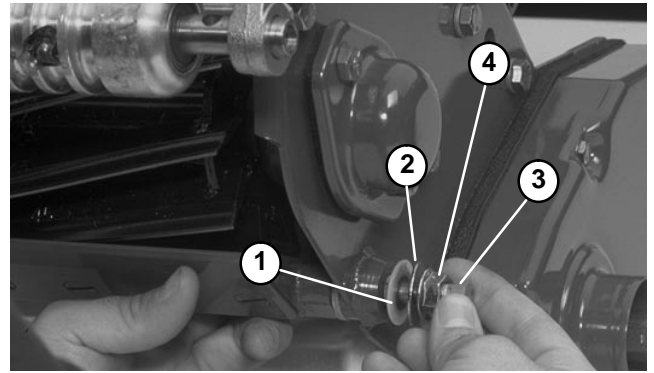

Figure 27
4. Put anti-seize lubricant on the threads of bedbar bolts. Install nylon washer, metal washer, and bedbar bolt to both sides of the frame (Fig. 27).